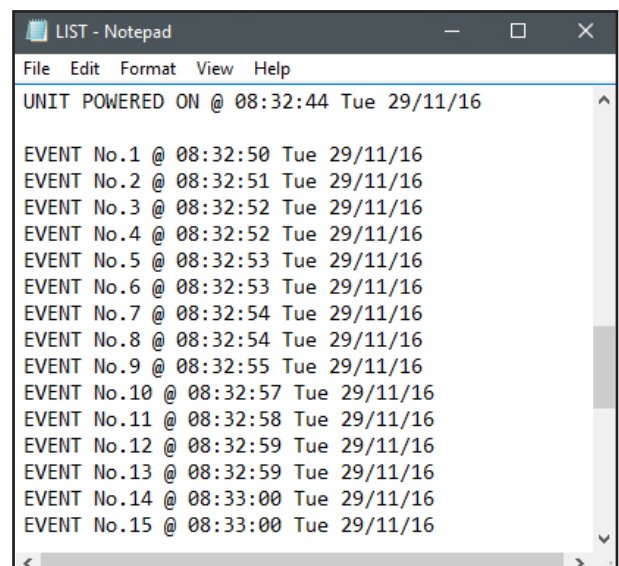

Fig 3
Step 3: Open the LIST.txt file by double clicking the icon and you should get a window that looks like figure 3.